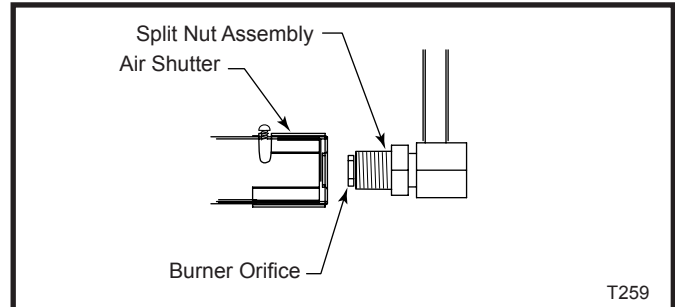

Fig. 45 Replace burner orifice with correct conversion orifice.
5. Using a suitable tool replace natural orifice #47 with propane orifice #56 for model 33TDVP, or replace natural orifice #45 with propane orifice #55 for model 36TDVP, or replace natural orifice #42 with propane orifice #54 for model 39TDVP furnished with conversion kit. Tighten orifice with suitable tool until gas tight. (Fig. 45)